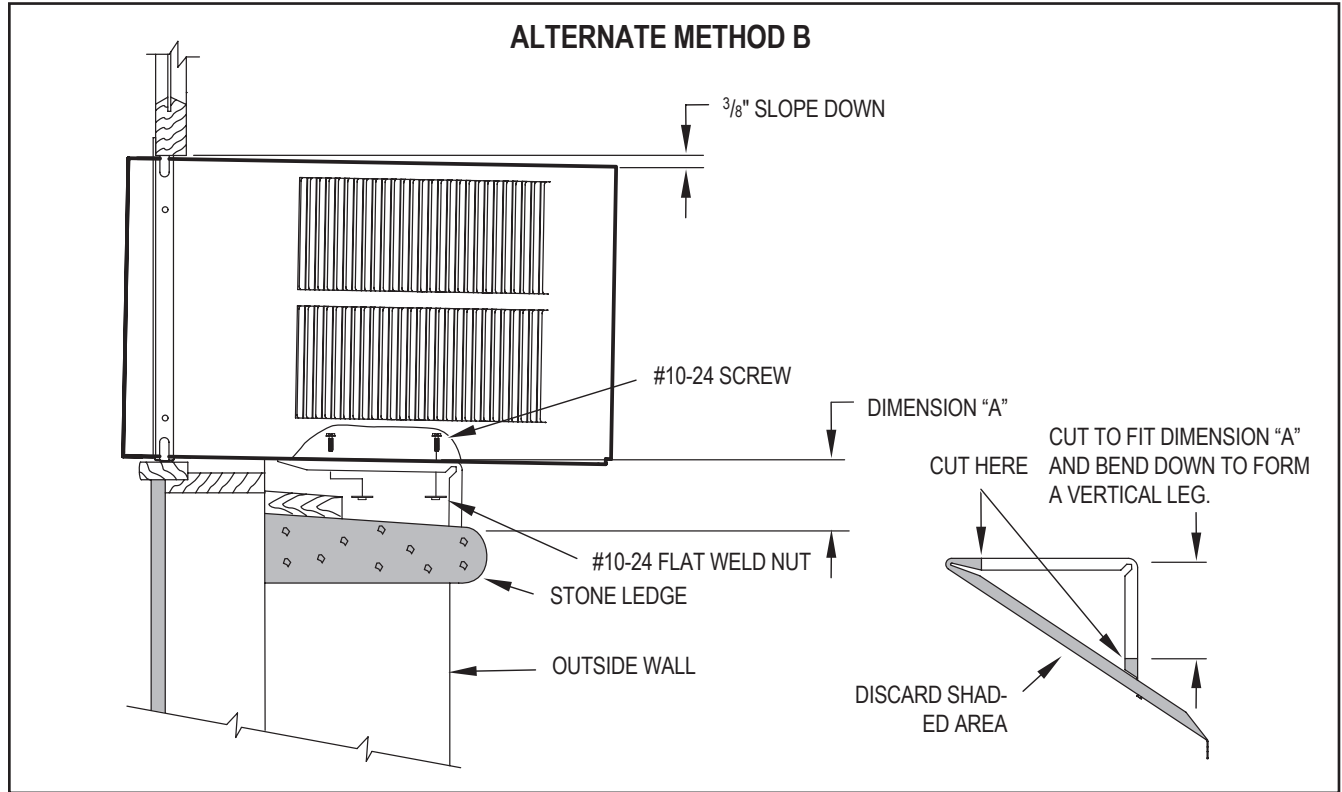

Figure C.4.10
Alternate support method B: If the window ledge gap is narrow, try the following. Bend the bracket end tab flat. Cut the bracket in two (2) places as shown in Figure C.4.10. Bend the short piece so it will be vertical when installed. Adjust the placement as required. Tighten all screws.